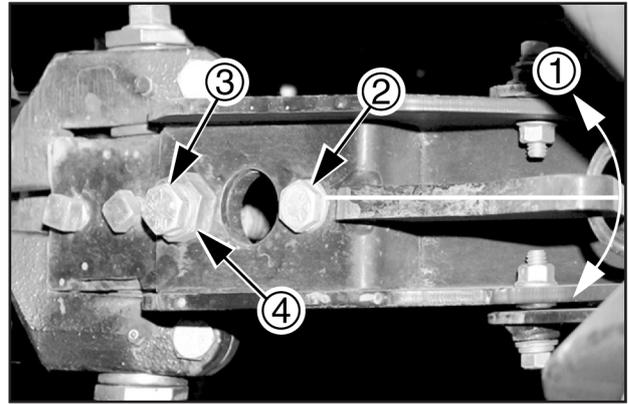

Figure 60. Press Wheel Centering (View from beneath opener)
- 3. Centering (see Figure 60).
Refer to Figure 60